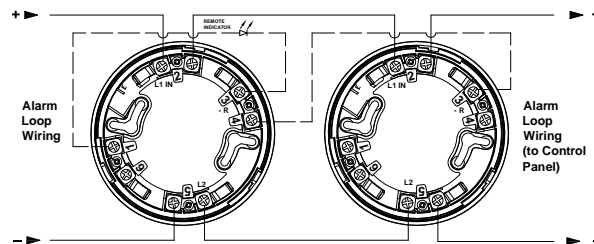

Fig. 1: Base wiring connections
2. Connect the conductors to the base terminals as shown in Fig. 1.